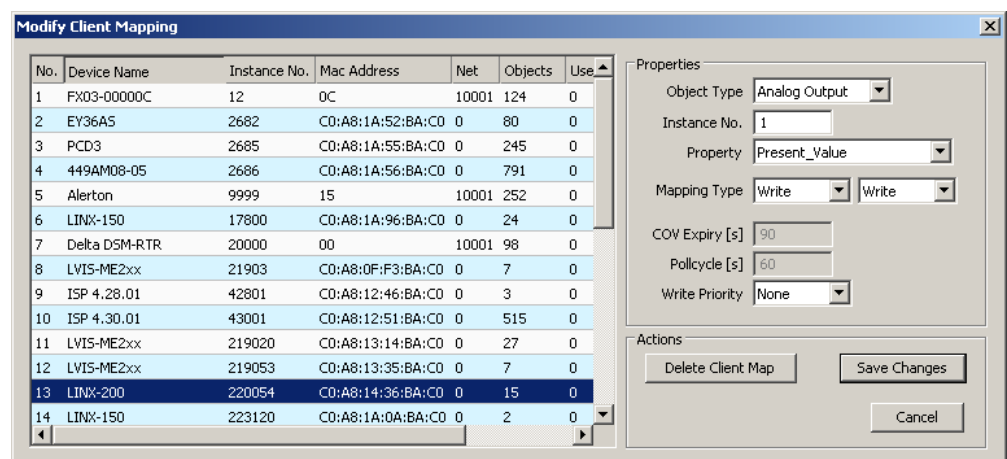

Figure 158: Modify Client Mapping Dialog.
- This opens the **Modify Client Mapping** dialog as shown in Figure 158.